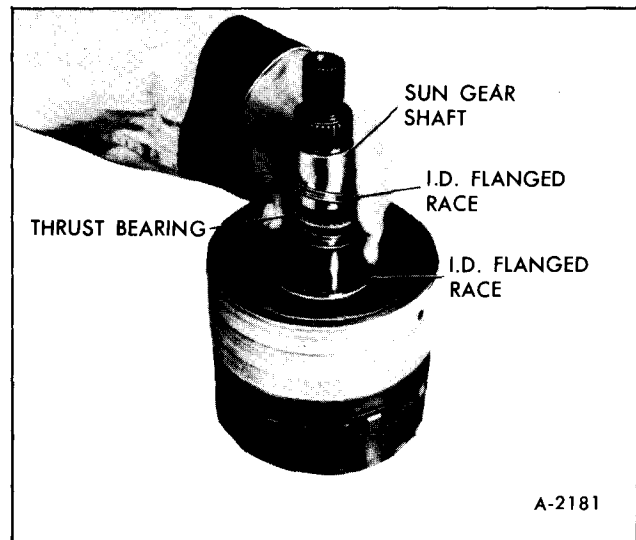

Figure 58—Installing Thrust Bearing over Sun Gear Shaft
14. Install the center support to sun gear thrust races and bearings as follows: (See figure 58)